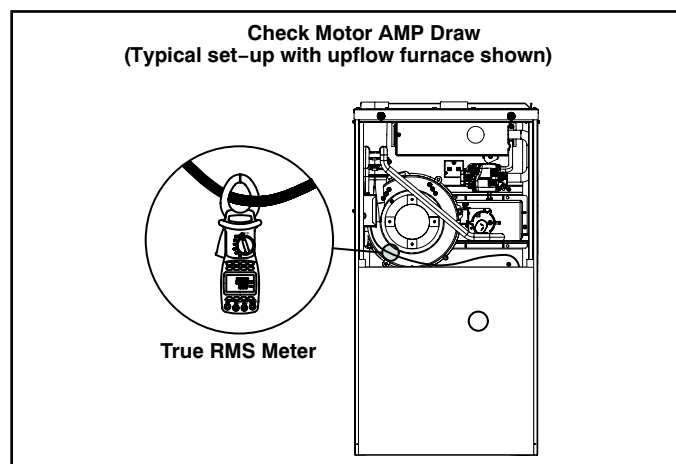

FIGURE 64
- 3 - Check amp-draw using a true RMS meter on the blower motor with blower access panel in place. See FIGURE 64.